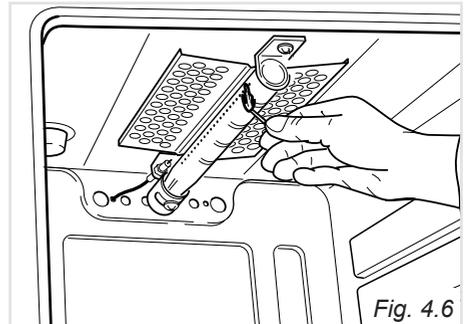

Fig. 4.6
2. Apply a flame to pipe of the grill burner as shown in fig. 4.6